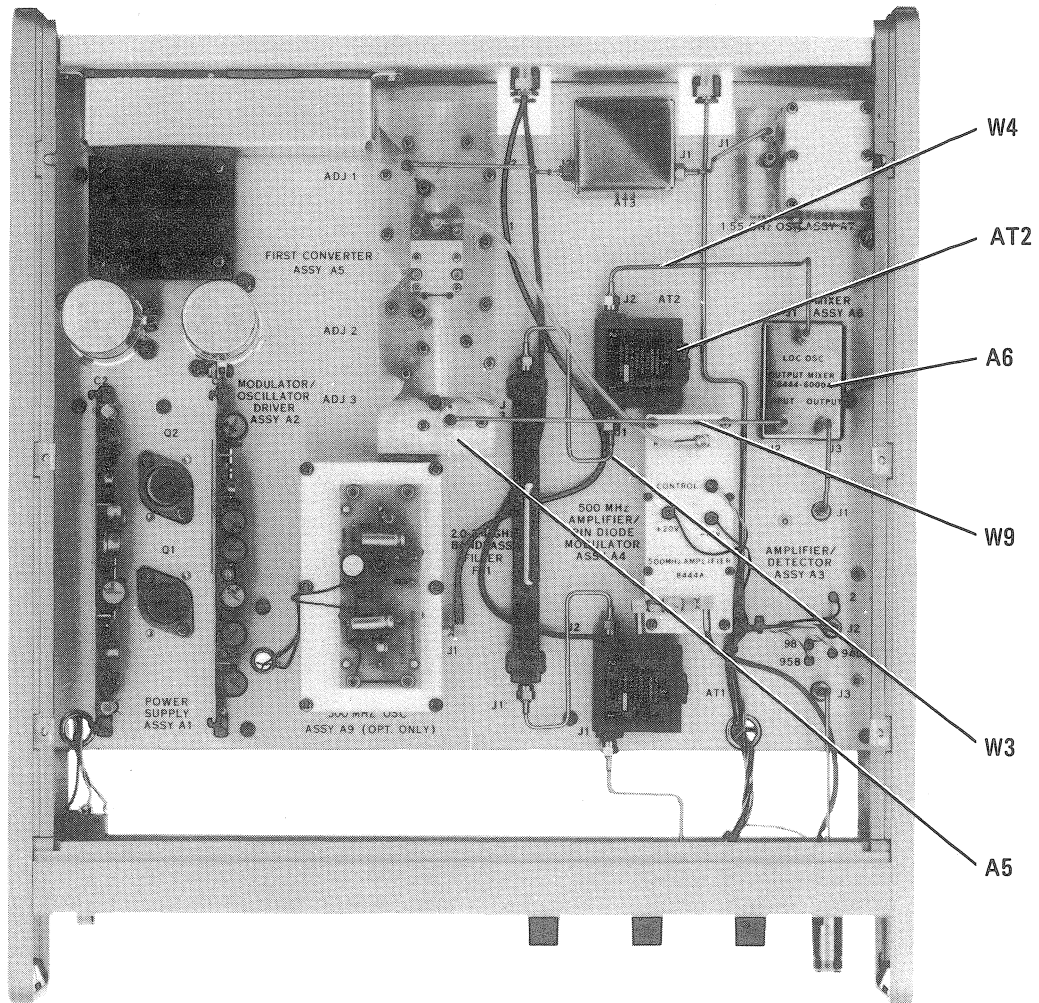

Figure 1. HP Model 8444A Option 059 Tracking Generator
2. Remove Isolator AT2 (see Figure 1) using following procedure: